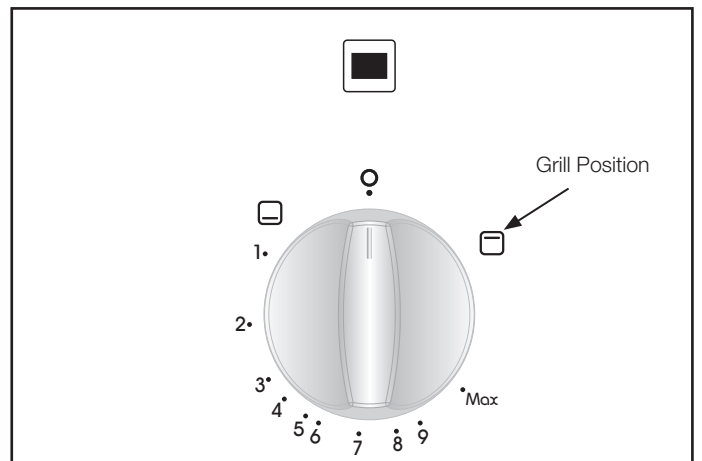

Figure 10
4. The grill is ignited in the same way as the hob rings. The Grill position on the oven/grill control knob is shown in figure 10.